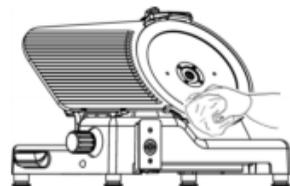

Fig. 31
- Clean the blade protection (2) and the blade (1) with a damp cloth and neutral cleaning agent (fig. 31).